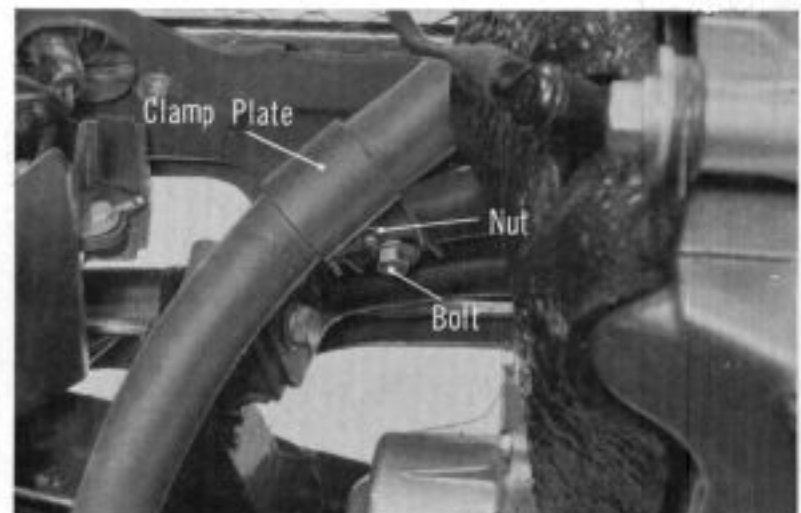

Fig. 15B-1
1. The exhaust pipe is installed on the cylinder head through the flange, inserted into the primary silencer, and secured with a clamp. On the other hand, it is supported by the front engine support beam through clamp plate. Separate the clamp plate from the front engine support beam. Loosen the nut and remove the bolt, and the clamp plate can be freed from the exhaust pipe. (Fig. 15B-1)